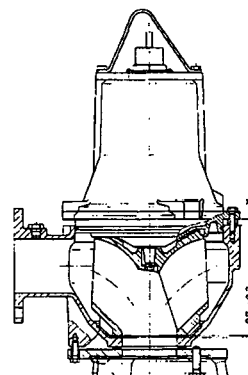

Fig. 16
4. Slacken the fixing screws and open the clearance to 0.7 mm \pm 0.2 mm by tightening the three adjusting screws, see fig. 16. Check that the clearance is equal all around the suction opening.
The impeller clearance can be adjusted while the pump is mounted on the base stand and connected to the pipework, see fig. 16.
4. Measure the distance X between the shaft seal housing and the pump housing at three points using a slide caliper, see fig. 16.